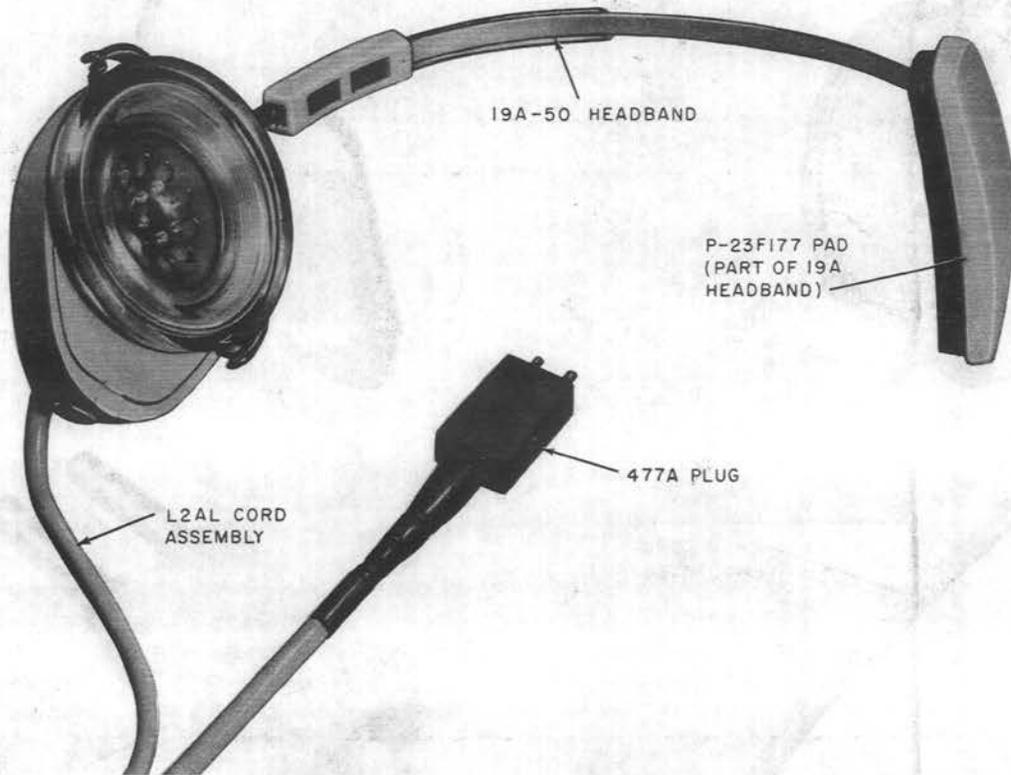

Fig. 5—1027A-Type Headset
2.09 The 1027A-type headset (Fig. 5) is designed for bridging across the receiver circuit of a supervisor head telephone set. The 1027A-type headset is available in ivory (-50) color only.